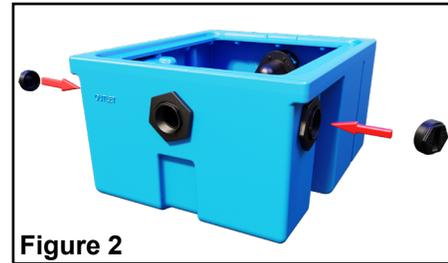

Figure 2
- Install the outlet plugs into the outlets that will **NOT** be used until a watertight seal is created. **Figure 2.**